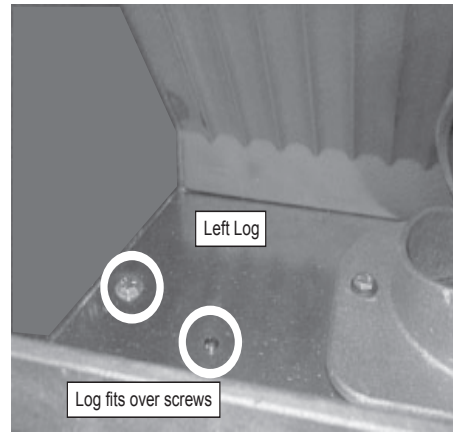

Figure 24.4
1. Place the left log as shown. There are 2 indentations in the bottom of the log to fit over the screw heads in the firebox (**Figures 24.4 & 24.5**).